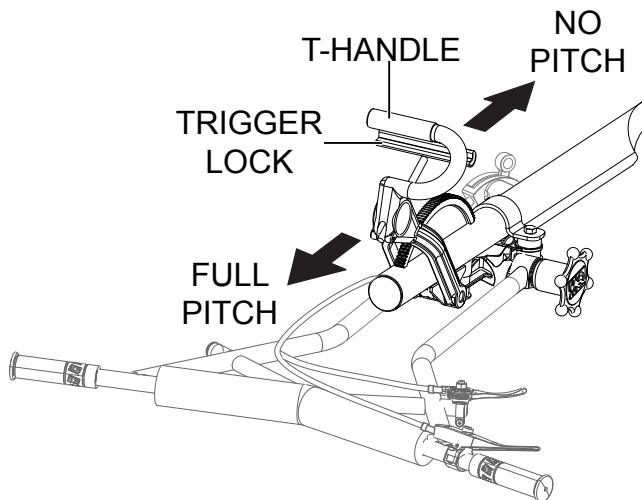

Figure 6. Adjusting Cable Blade Pitch (Quick-Pitch™ Handle)
2. For trowels equipped with a **Quick Pitch™ T-handle** (QXHS), simply squeeze the trigger lock and push the **T-handle** towards the engine to pitch the blades downward. Pushing the **T-handle** towards the engine will cause the blades to lay flat (Figure 6). This will release the tension on the blade pitch cable.